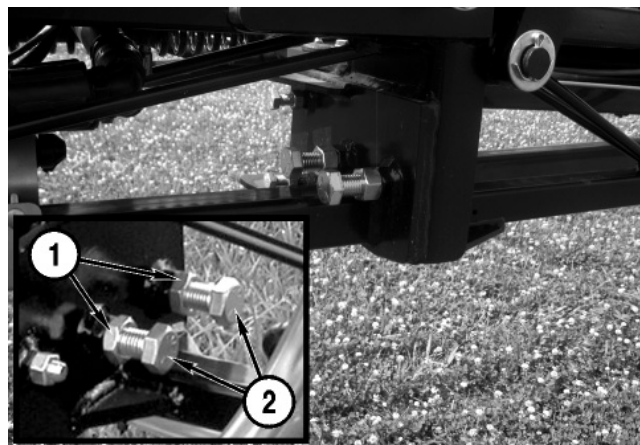

Figure 5-5
The left boom tip is shown in **Figure 5-5**.
1. Loosen the jam nuts (**Figure 5-5, 1**) on the leveling bracket.
2. Turn the leveling bolts (**Figure 5-5, 2**) clockwise to raise or counterclockwise to lower the boom tip.